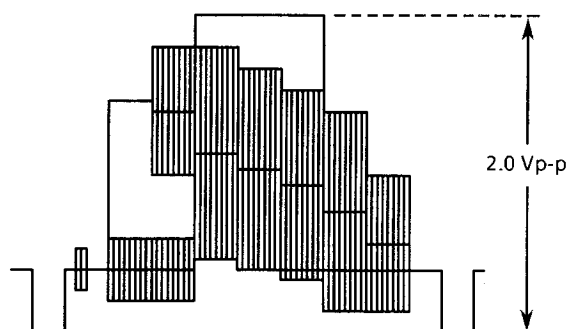

Figure 1-7.
2. Feed the colour bar signal to the video input terminal. Observe the voltage of pin (34) of IC201 on the oscilloscope screen, adjust R203 (EE level) to obtain the value indicated in **Figure 1-7**.